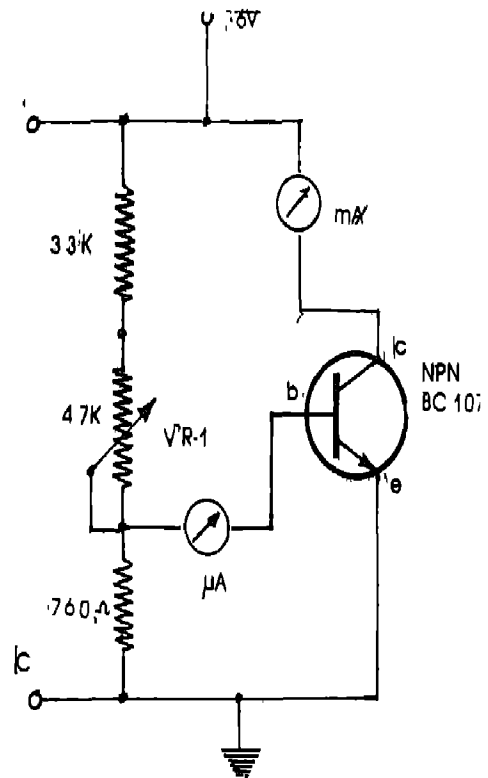

Fig. 8.1
1. Connect the circuit as shown in Fig. 8.1.
1. How will the circuit of Fig. 8.1 look like when NPN transistor is replaced by a PNP type?